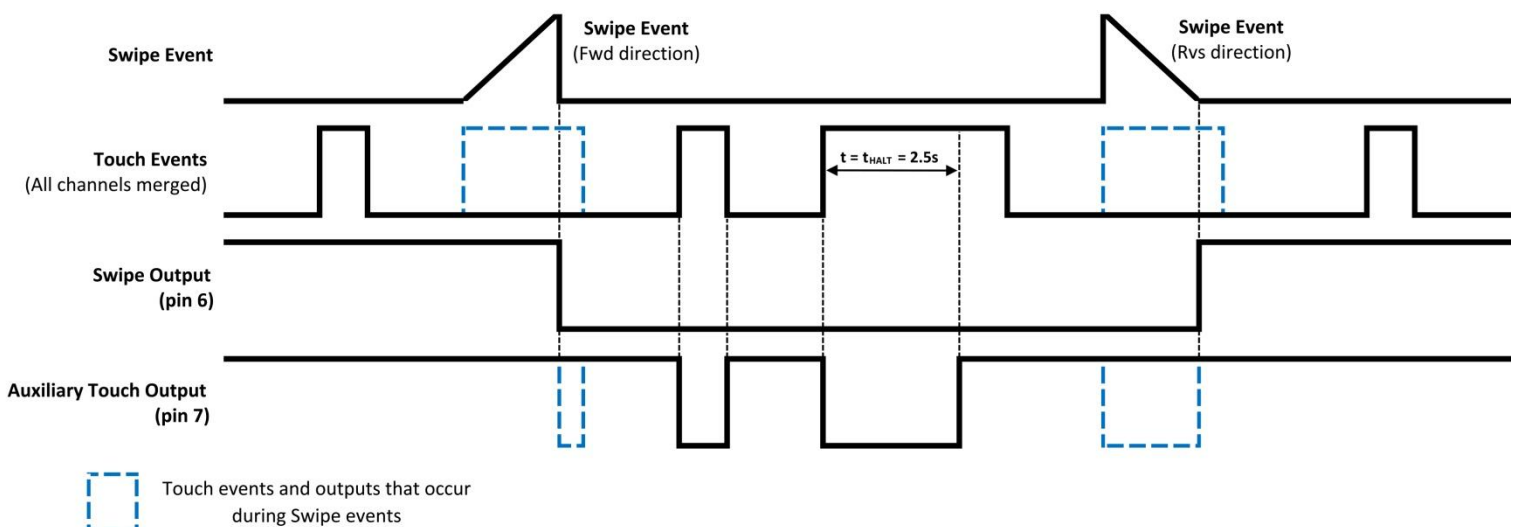

Figure 5.1 : IQS213A (IQS213) setup example 1
Example 1 (see **Figure 5.1**) illustrates the user interface (UI) and device outputs for a **3-Channel Self Capacitive SwipeSwitch** (output on pin 6), in an active low configuration with the Directional UI and Auxiliary **Touch** Output on pin 7.